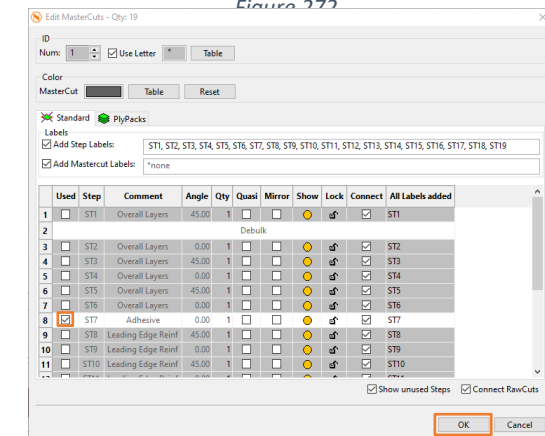

Figure 273
68. Now select ST7 on position 8 again (Figure 273).